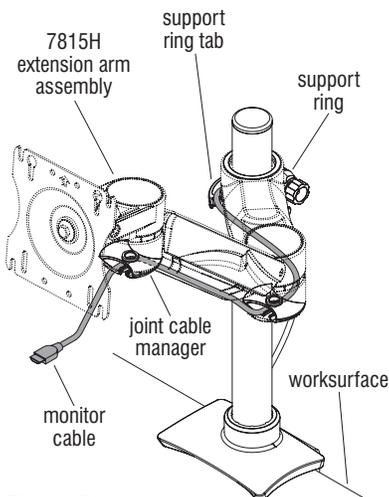

Figure 8
12. Feed monitor cables through joint cable managers located on the underside of extension arm assembly (Figure 8).